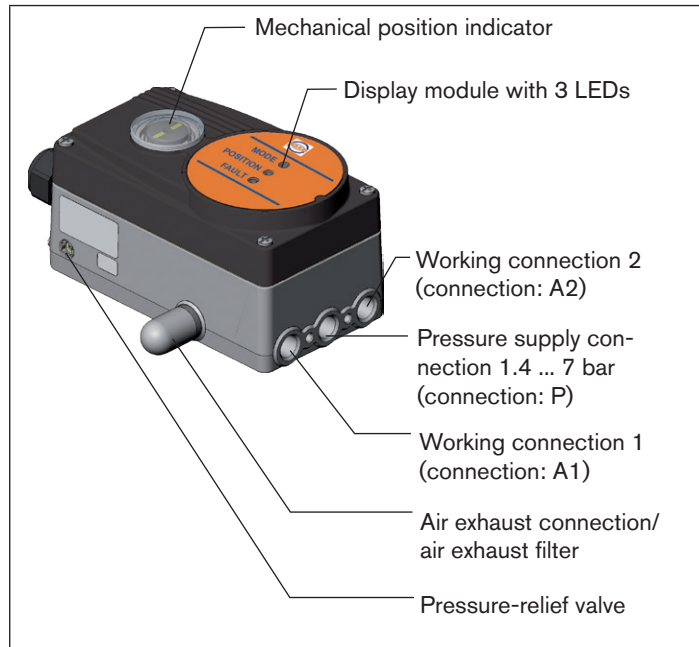

Fig. 1: Structure, positioner Type EP 501 B
1) When using the positioner under IP67 conditions, the air exhaust filter (see "Fig. 1") must be removed and the exhaust air conveyed to the dry area.